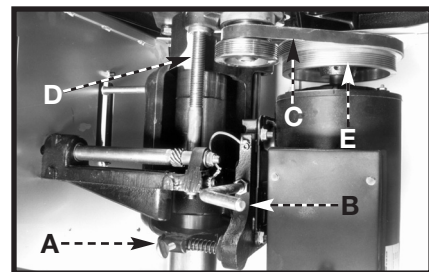

Fig. 28
2. Loosen the thumb screw (A) Fig. 28. Release tension on the belt by moving the lever (B) to the left. Position the belt (C) on the desired steps of the spindle pulley (D) and the motor pulley (E), and apply belt tension by moving the lever (B) to the right. When the desired belt tension is attained, tighten the thumb screw (A).
3. Proper belt tension is approximately a 3/32" deflection when using light finger pressure on the belt between pulleys. **IMPORTANT:** Pulleys (D) and (E) Fig. 28 should always be aligned with each other to provide maximum belt performance and reduce belt wear. To check pulley alignment, refer to section "REPLACING SPINDLE CARTRIDGE".